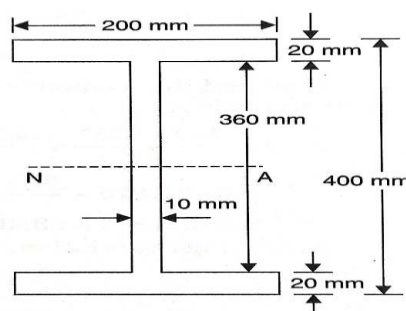

Fig. Q 6(b)
b. A rolled steel joist of I- section has the dimensions as shown in Figure Q 6(b). This beam of I section carries a UDL of 40 kN/m run on a span of 10 m, calculate the maximum stress produced due to bending. 10 (3 :3: 1.7.1)